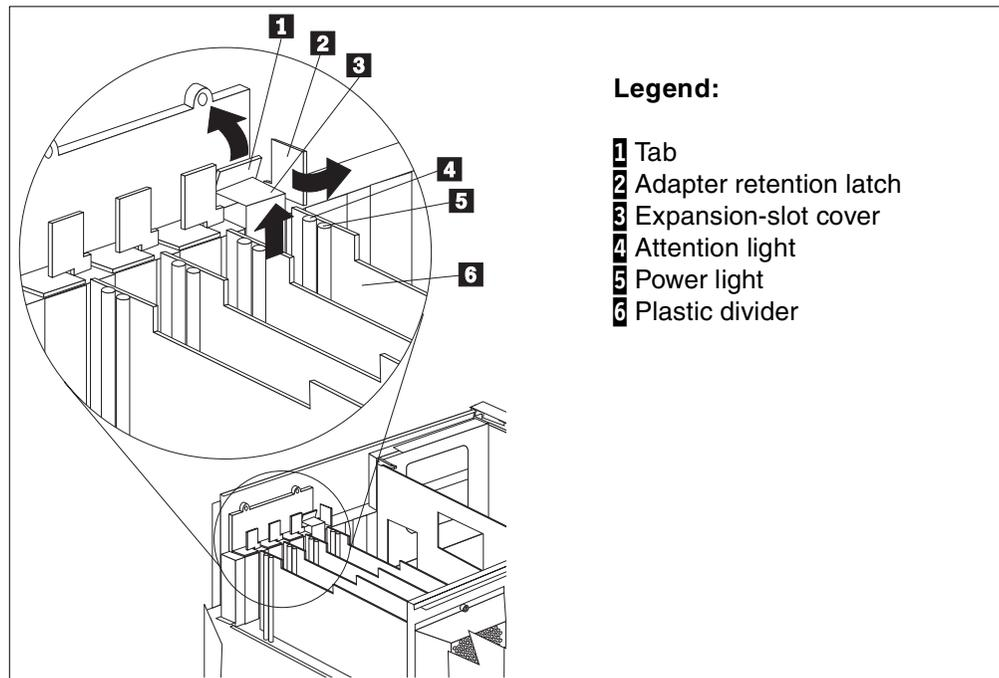

Figure 95. Inserting a PCI Hot Plug adapter
9. You can now safely remove the adapter from the hot-plug slot as shown in Figure 95.
- a. Verify the power LED next to the stopped adapter is blinking (5).
- b. Turn the orange plastic retention latch (2).
- c. Lift the black tab (1).